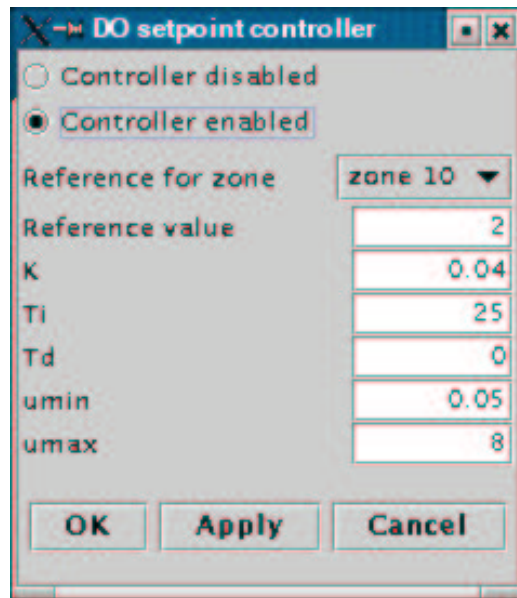

Figure 4: The DO setpoint controller dialog
26. It is also possible to use a supervisory PID for the DO setpoint. By selecting *DO setpoint controller* in the *Controllers* menu a dialog is displayed, shown in Figure 4. It displays the parameters of the DO